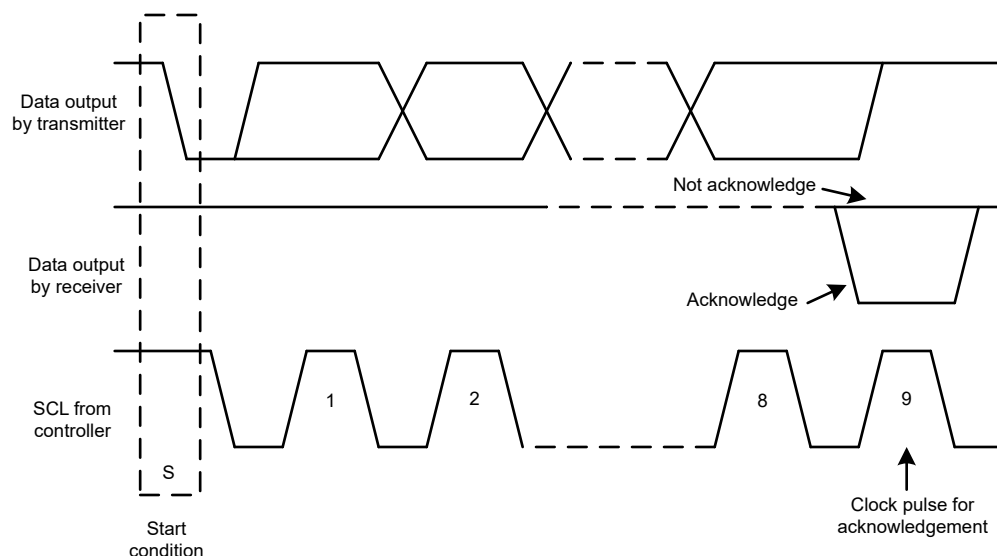
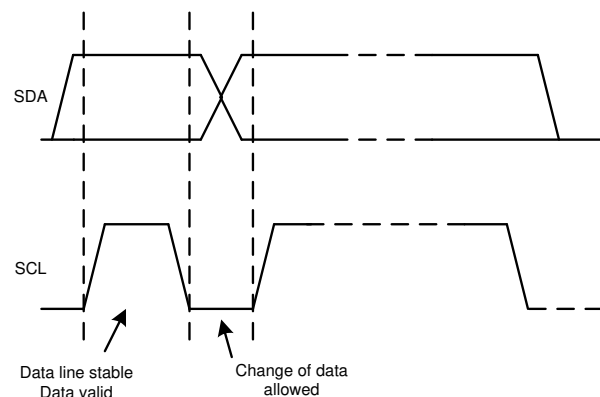

Figure 7-10. Acknowledge and Not Acknowledge on the I²C Bus
Figure 7-12. Bit Transfer on the I²C Bus
Other than specific timing signals, the I²C interface works with serial bytes. At the end of each byte, a ninth clock cycle generates and detects an acknowledge signal. An acknowledge is when the SDA line is pulled low during the high period of the ninth clock cycle. Figure 7-10 depicts a not-acknowledge, when the SDA line is left high during the high period of the ninth clock cycle.
2. The controller then generates the SCL pulses, and transmits the 7-bit address and the read/write direction bit (R/\bar{W}) on the SDA line. During all transmissions, the controller makes sure that data are valid. Figure 7-12 shows that a valid data condition requires the SDA line to be stable during the entire high period of the clock pulse. All devices recognize the address sent by the controller and compare the address to the respective internal fixed address. Only the target device with a matching address generates an acknowledge by pulling the SDA line low during the entire high period of the 9th SCL cycle (see also Figure 7-10). When the controller detects this acknowledge, the communication link with a target has been established.